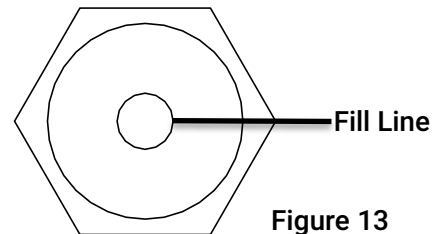

Figure 13
4. Start the unit and run for several minutes. Shut down the air compressor and recheck the oil level. If necessary, add more oil. (Figure 13)